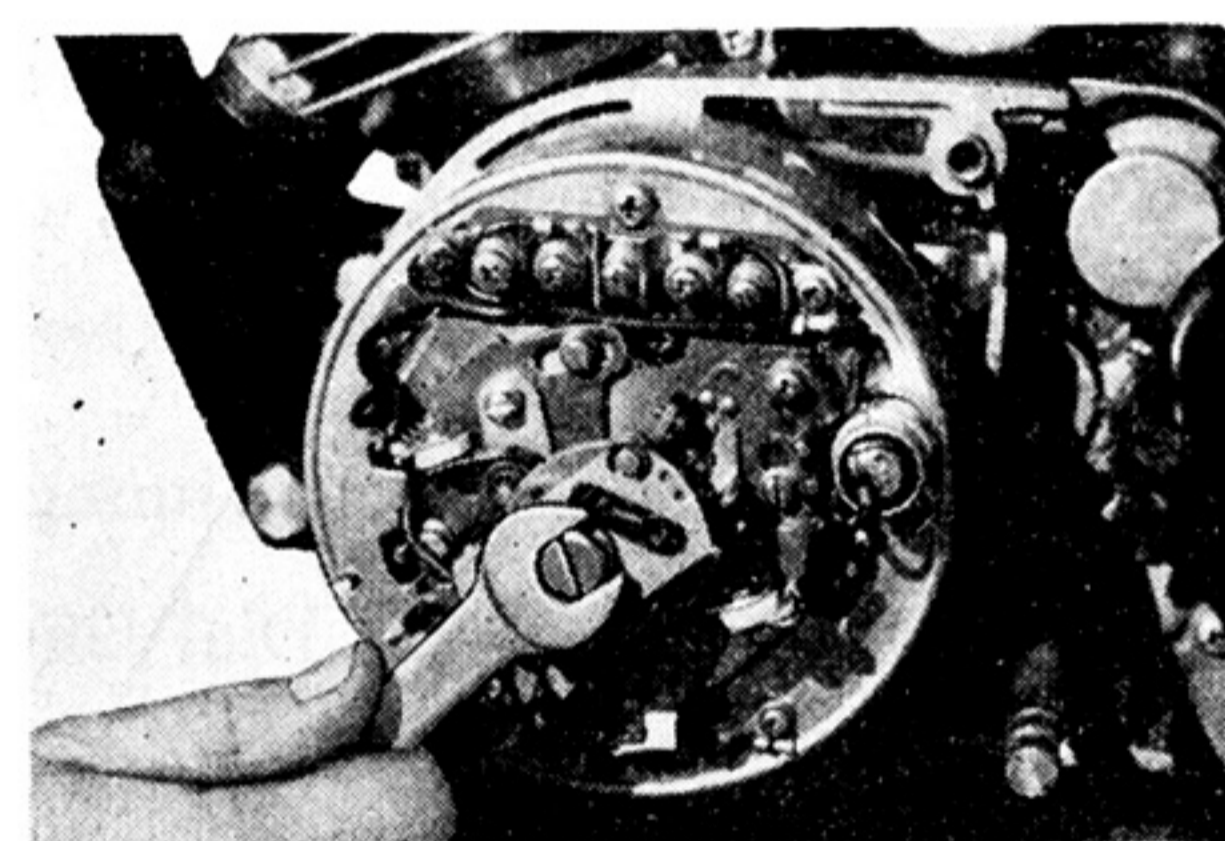

Fig. 5-4-16
- 6) Remove the lead wires from terminal 1₁ or 1₂. Connect the terminal to the positive (+) tester lead, and ground the tester's negative lead to the frame. (Fig. 5-4-16)